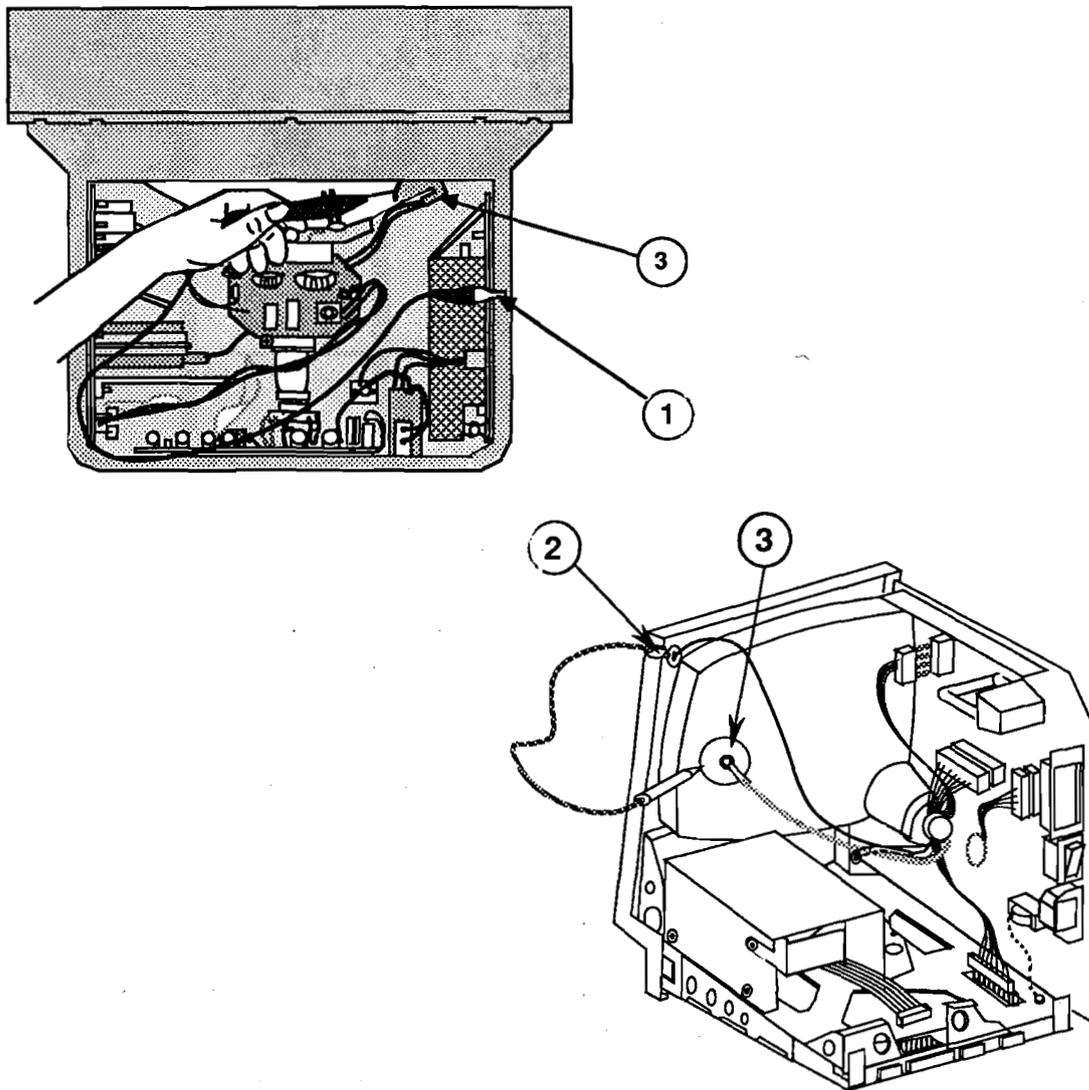
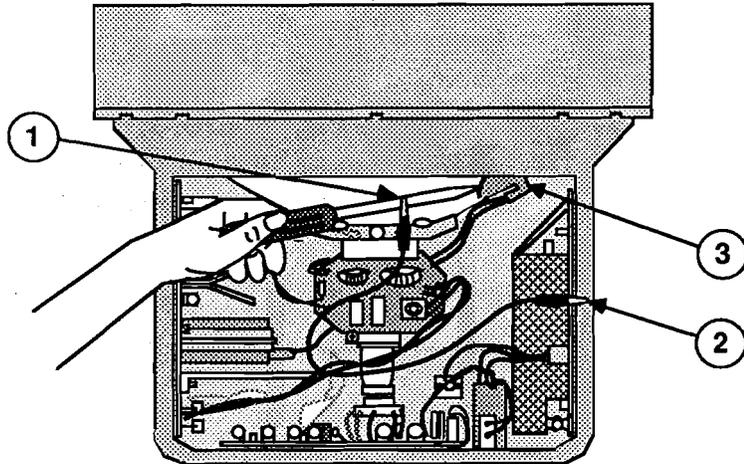

FIGURE 4
FIGURE 5
5. Attach the clip of the CRT discharge tool to any metal part of the monitor chassis (Figure 4, #1) **or to the ground lug of the Macintosh** (Figure 4, #2). If you are using the screwdriver method, attach one end of the alligator lead to the metal screwdriver blade (Figure 5, #1). Attach the other end of the alligator lead to the monitor chassis (Figure 5, #2) **or to the ground lug of the Macintosh**. (Figure 4, #2).
7. Hold the CRT discharge tool or the insulated screwdriver to the tube surface, and insert the tool probe or screwdriver blade under the anode cap (Figure 4, #3 or Figure 5, #3) until the probe or blade touches the anode ring.